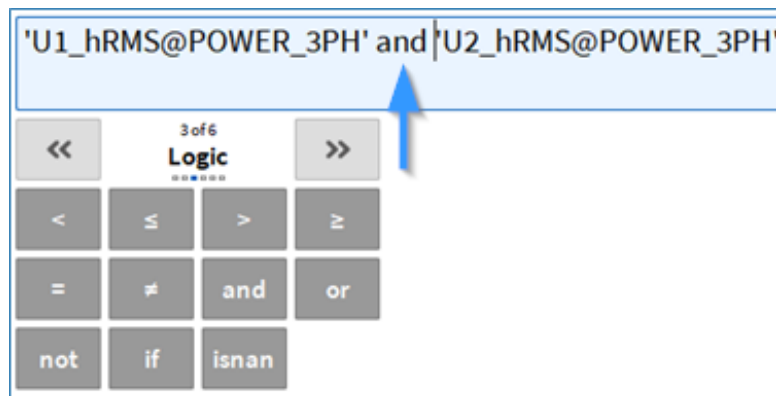

Fig. 7.76: Logic operators in combination with array channels
- Logic operators (see Fig. 7.76)